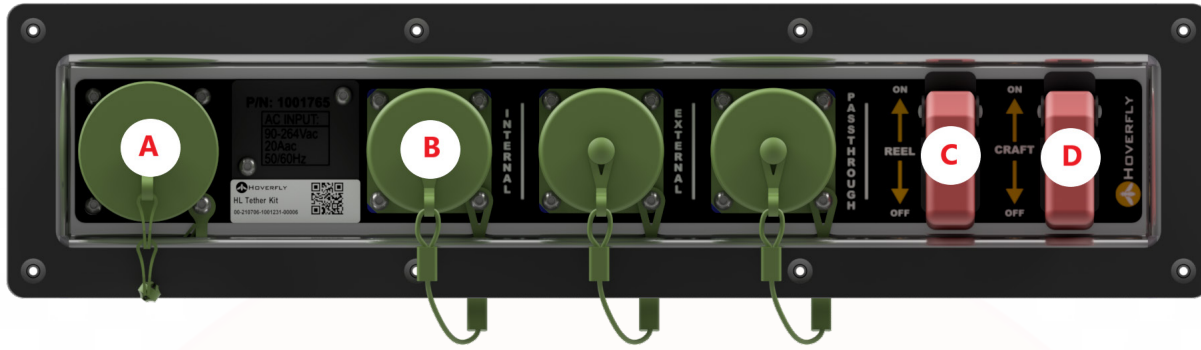

Figure 18: Tether Kit Power and Connection Panel
DO NOT CONNECT AC POWER. ENSURE TETHER KIT POWER SWITCHES (2x) ARE IN THE OFF POSITION (FIGURE 18, C & D).
11. Flip the **REEL** power switch (**Figure 18, C**) and reel the remaining tether in.
15. Connect the controller with the supplied Ethernet cable by plugging it into the **Internal** Ethernet port on the Tether Kit (**Figure 18, B**).
16. Connect the supplied AC power cable to the **AC Input** receptacle on the Tether Kit (**Figure 18, A**). Connect the other end of the AC power cable to a power source capable of supplying 3,000W (3 Kw).
2. Set the two red power switches on the Tether Kit to the **ON** position (**Figure 18, C and D**).